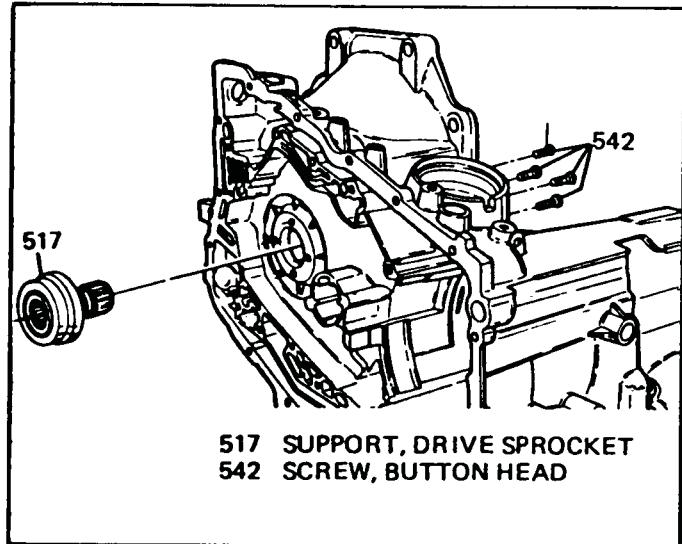

Figure 62
2. If removal is necessary, remove the four 40 torx head bolts and remove the drive sprocket support from case. (Fig. 62)